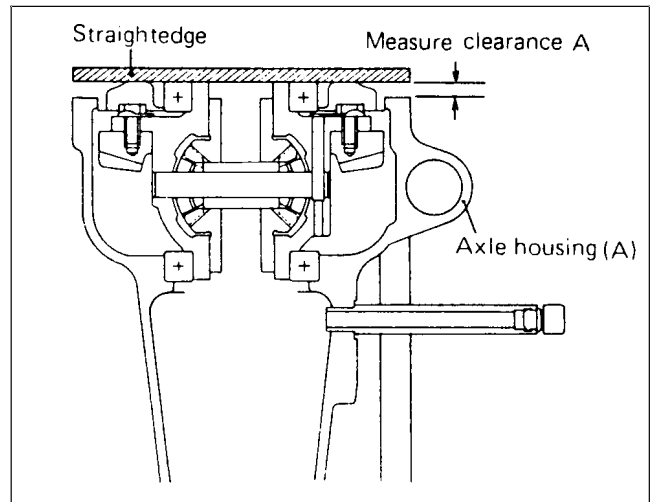
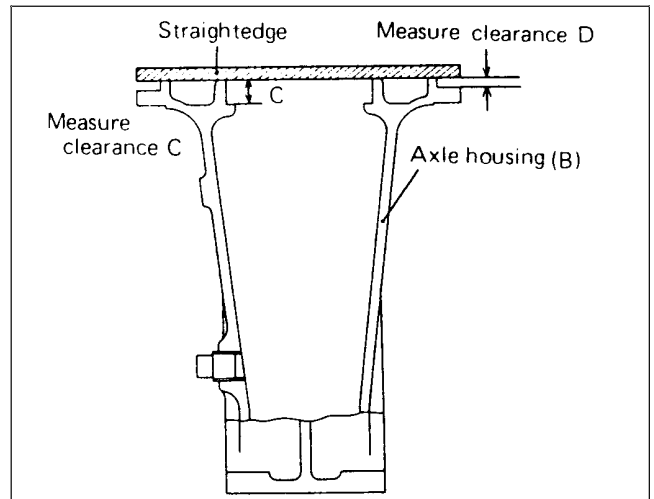

Figure 28A
Figure 28B
1. Put the straightedge flat on the ball bearing (Fig. 28A).
2. Read clearance A between axle housing (A) and straightedge.
3. Put straightedge on axle housing (B) and read clearances C and D. Subtract D from C. The difference between D and C is clearance B (Fig. 28B).